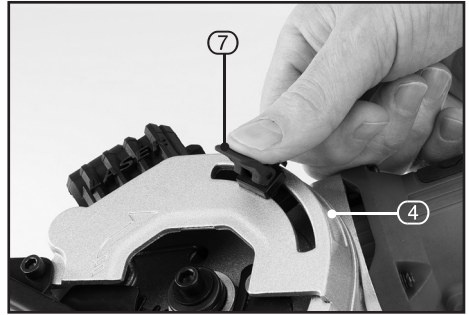

FIG.1
8.1 SETTING THE CUTTING DEPTH- FIG. 1